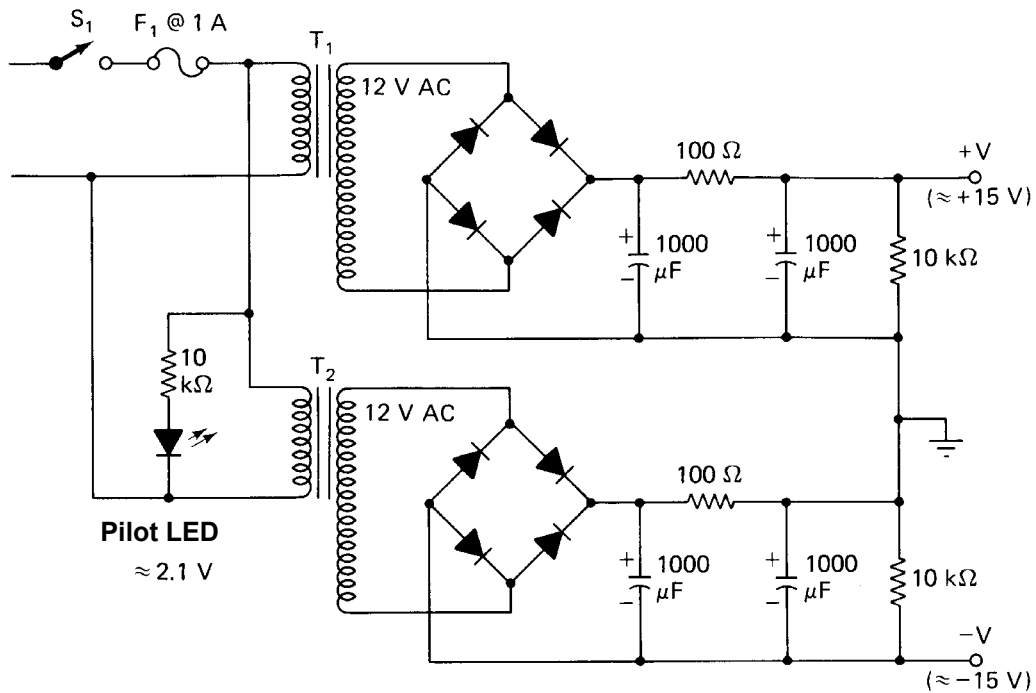

FIGURE 7.1 – The split-power supply used with operational amplifiers (2)
7.1 Operational amplifiers often rely on split-power supplies for its operation. Split-power supplies have both a positive and a negative supply. FIGURE 7.1 shows an example of such a split-power supply.